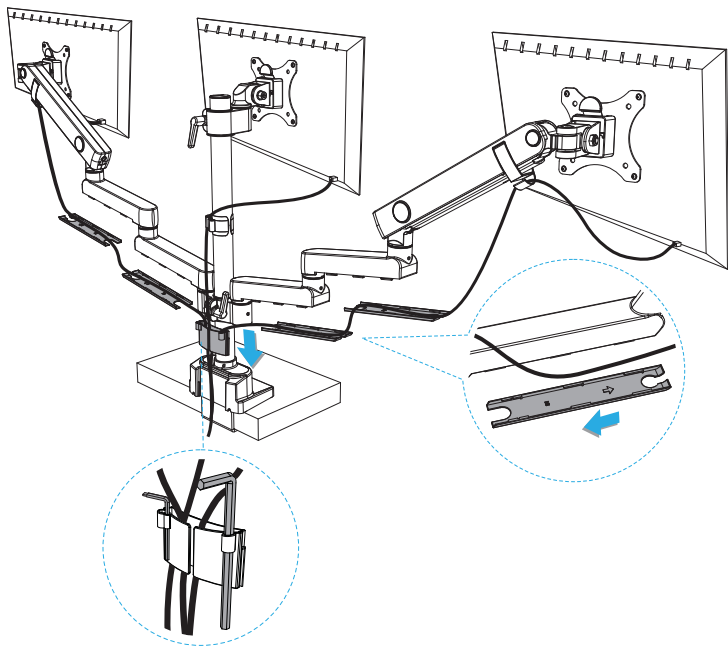

Figure 22
2. Route the **Cable(s)** through the **Cable Management Channels** under the **Swivel Arms**, the **Cable Management Clips**, and the **Tool Holder**. (Figure 22)
3. Install the **Cable Management Covers** back onto the **Swivel Arms** by sliding them into place. (Figure 22)
4. Use the **Tool Holder** to store the **3mm Hex Key with Flat Screwdriver** and **6mm Hex Key** for future use. (Figure 22)